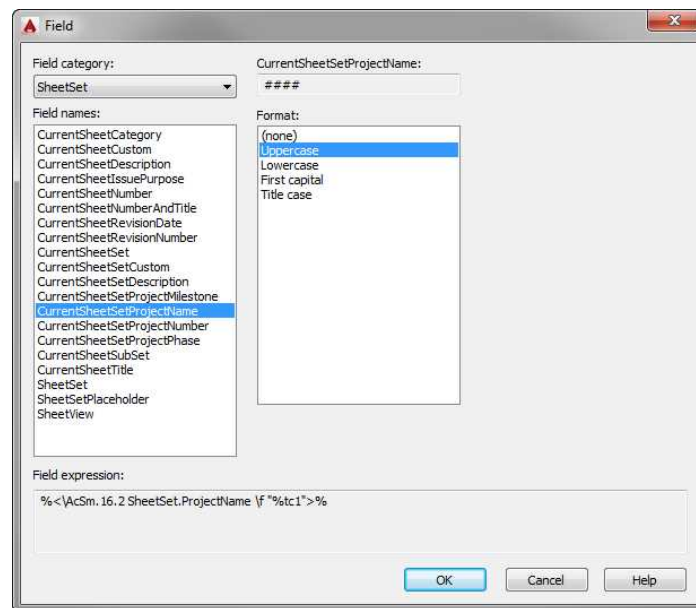

FIGURE 14.7: Selecting the Sheet Set Manager project name from the Field dialog box
6. Choose CurrentSheetSetProjectName from the list of available Field Names, and then choose Uppercase from the Format list on the right. The Field dialog box should look like Figure 14.7.